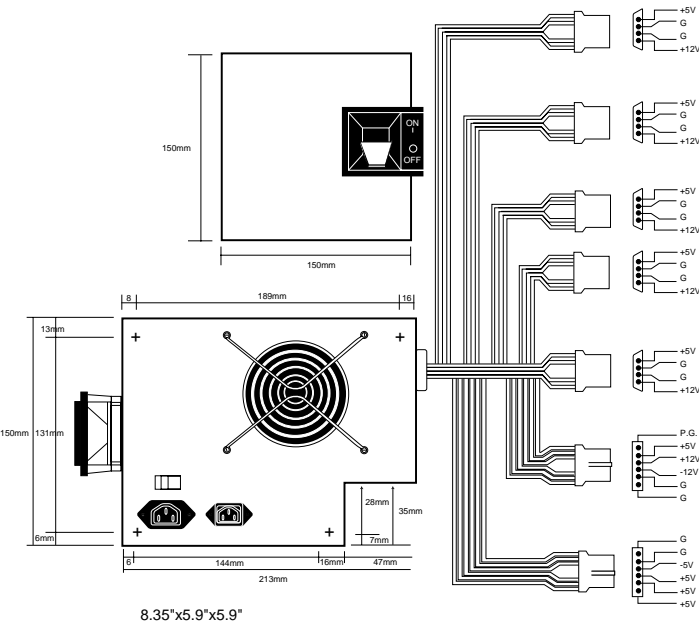

FIG. 8.2 AT/Desktop form factor power supply.
**AT/Desktop Style.** When IBM later introduced the AT desktop system, it created a larger power supply that had a form factor different from the original PC/XT. This system was rapidly cloned as well, and to this day still represents the basis for most IBM-compatible designs. The power supply used in these systems is called the *AT/Desktop style power supply* (see Figure 8.2). Hundreds of manufacturers now make motherboards, power supplies, cases, and so on that are physically interchangeable with the original IBM AT. If you are buying a compatible system, I recommend those that have form factors that are compatible with the IBM AT, because you will have numerous motherboards and power supplies from which to choose.